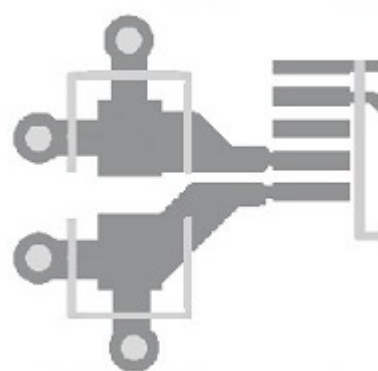

Figure 10-3. Good Layout
- Decoupling capacitor locations for the DMD must be as close as possible to the DMD. The pads of the capacitors must be connected to at least two or three vias to get a very low impedance to ground as shown in Figure 10-3. Furthermore, the capacitor must be in the flow of the power trace as it goes to the input of the DMD.